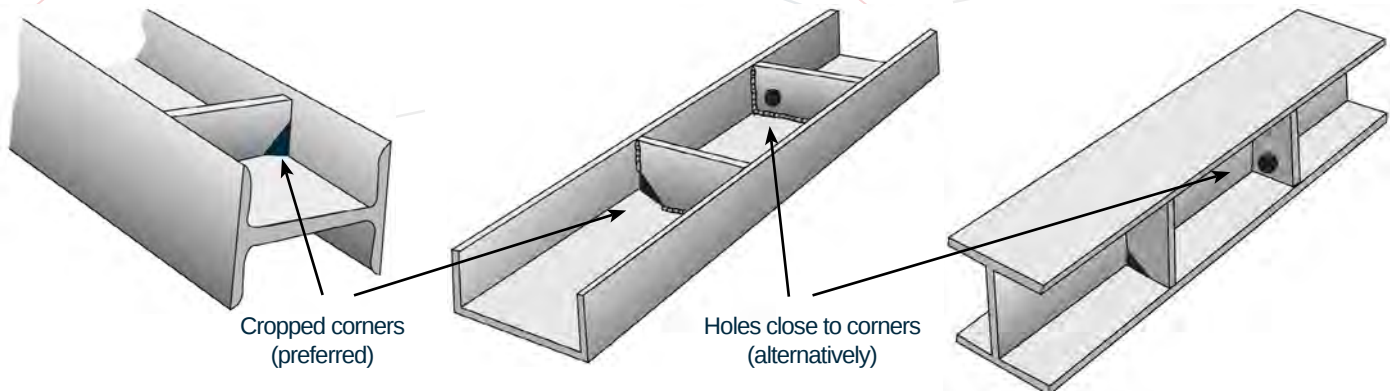

Figure 9: Cropped gusset plate corners
- To ensure unimpeded flow of solutions, all stiffeners, gussets, and bracing should be cropped a minimum of 3/4-inch (19 mm) (*Figure 9*). Provide holes at least 1/2-inch (13 mm) in diameter in end-plates on rolled steel shapes to allow molten zinc access during immersion in the galvanizing bath and drainage during withdrawal.